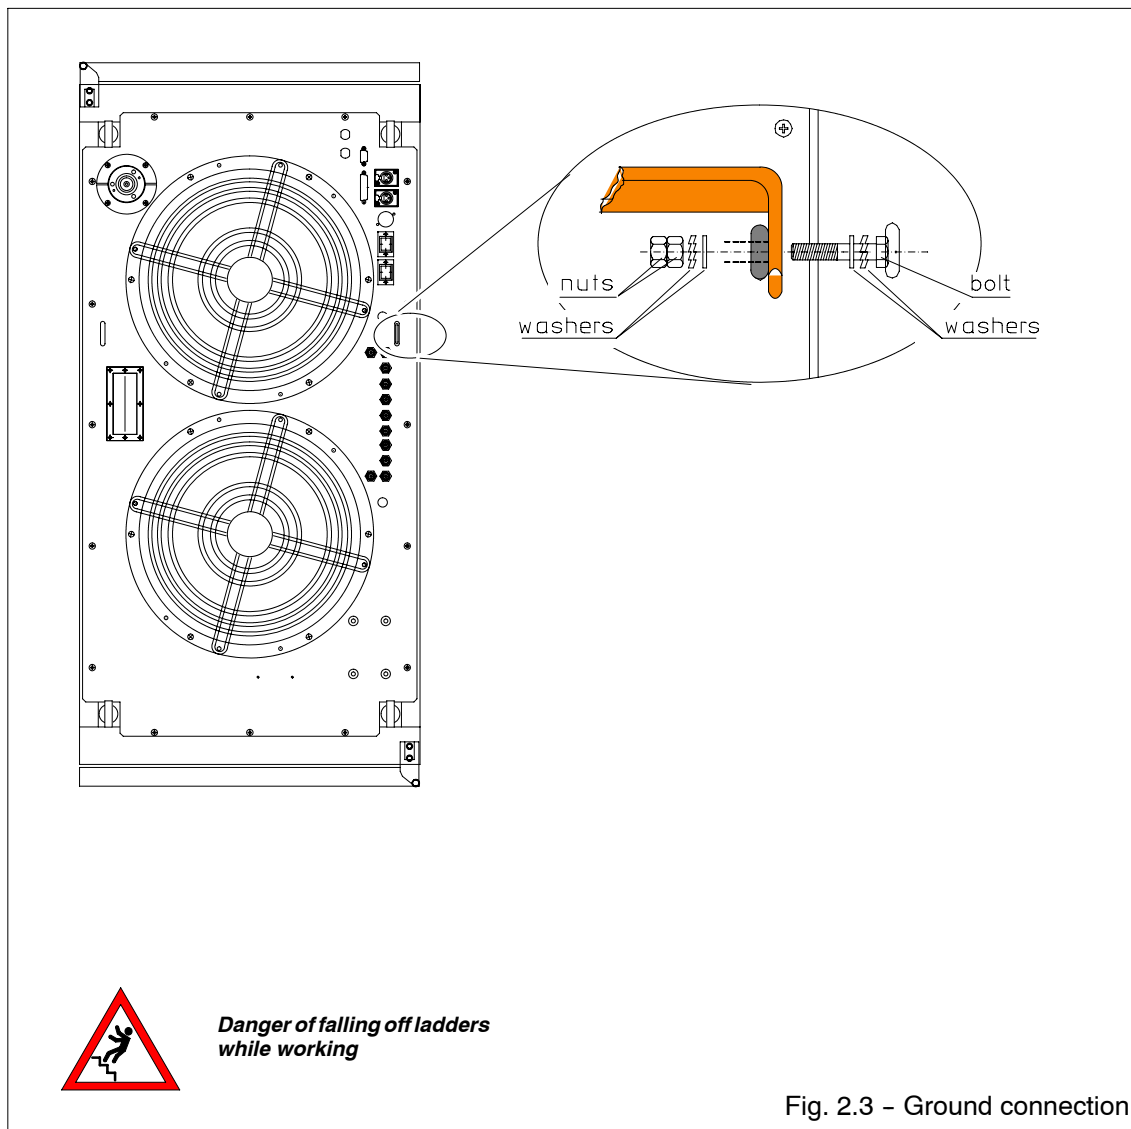

Fig. 2.3 – Ground connection
2.2.2 Ground connection (refer to Fig. 2.3)